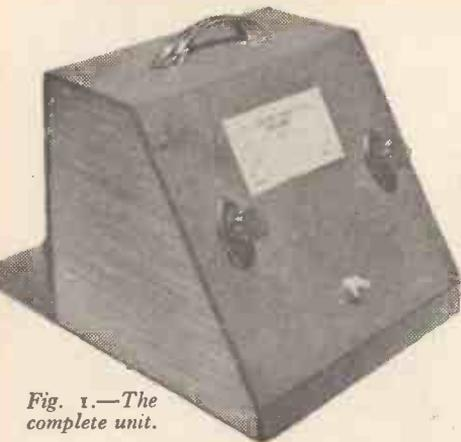

Fig. 1.—The complete unit.
**T**HIS simple device, shown in Figs. 1 and 2, will show changes of air pressure of about  $\frac{1}{4}$  in. of Mercury and is used to show the last big pressure change by the glowing of one of two lamps.
This may be of any material, but if of metal it must be properly earthed to the green mains lead. A suggested wooden cabinet is shown in Figs. 1 and 2. Two pieces of deal as in Fig. 2 are required, the rest is made up of hardboard pinned in place, the front panel being screwed.